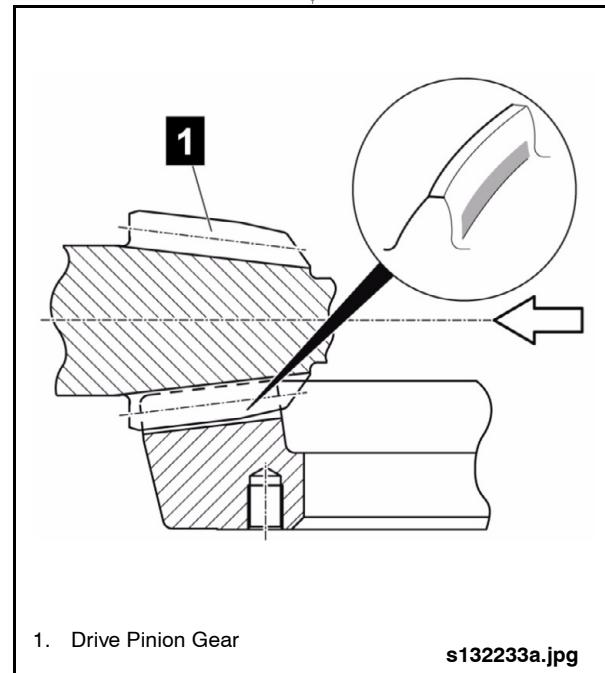

Fig. 2-75: Contact on Tooth Root
1. If there is contact on the tooth root, reduce the installation depth of the drive pinion by using thicker shims. See "Fig. 2-75: Contact on Tooth Root" on page 61.